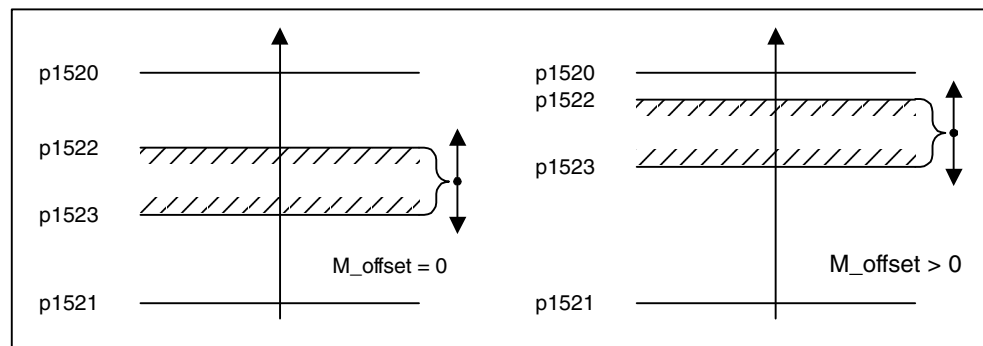

Fig. 3-10 Example: Torque limits with or without offset
- Offset of the setting values also possible (see Fig. 3-10)